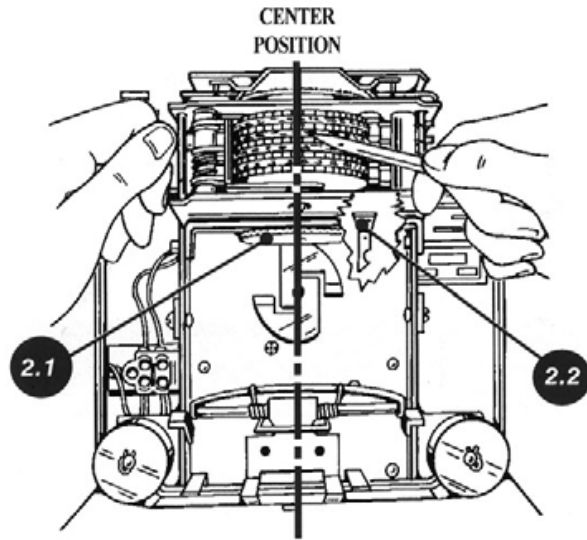

Figure 2
1. Locate the Center Line where all the wheels line up as shown in **Figure 2**.
2. Rotate the wheels using a pointed object. Rotate each wheel until the correct date and time are aligned at the Center Position, as shown in **Figure 2**. *Hint: Start at the top wheel and work down when setting.*